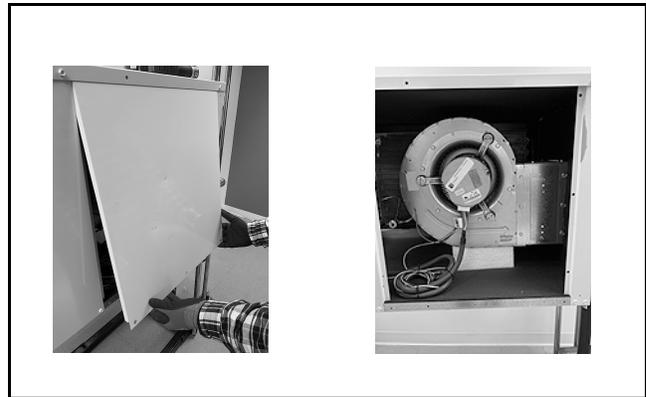

Fig. 6 Slide Out the Blower Access Panel
7. Once the three screws have been removed, slide the panel out and remove. (See Fig. 6.)